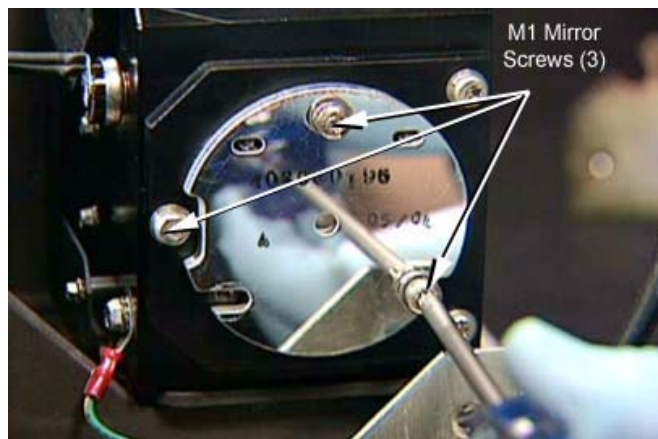

Figure 4 - M1 Mirror and Screws
9. Using a T20 Torx driver remove the three screws and flat washers that secure the M1 mirror to the lamp housing, and then pull the M1 mirror straight out (Figure 4).